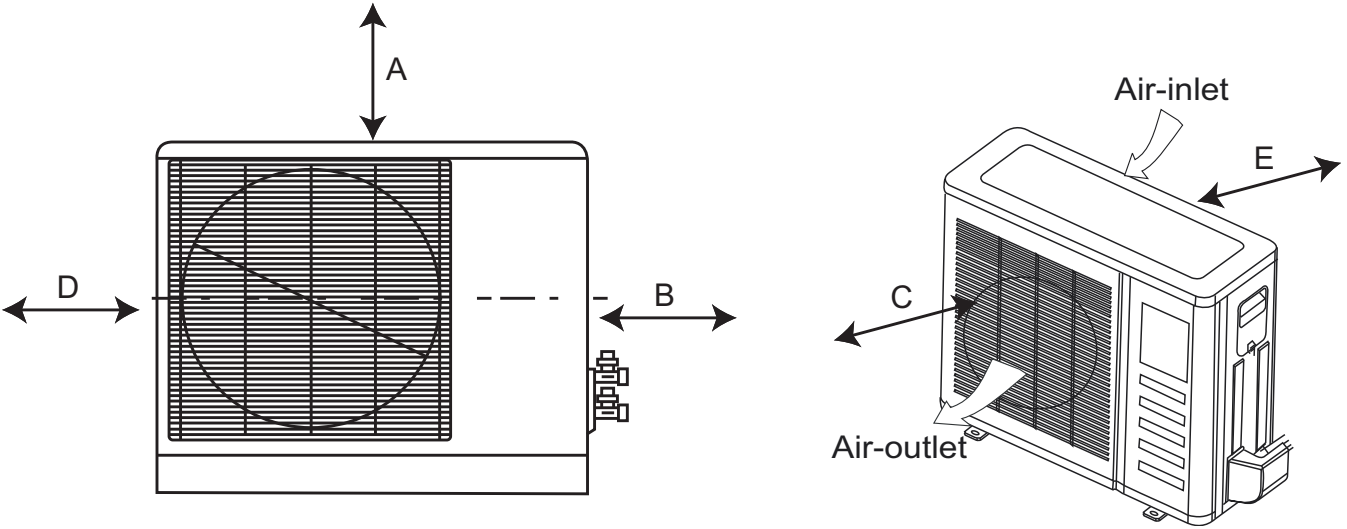

Fig. 7 – Clearances Outdoor
- A location with appropriate clearances as outlined in Fig. 7.